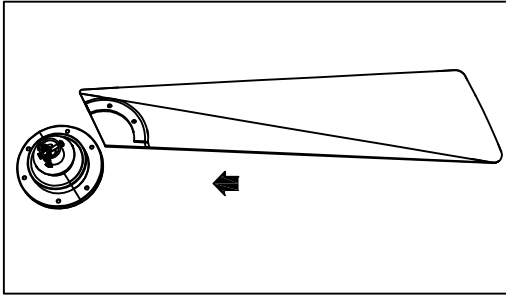

Figure 1
- 1) Fix the bracket and fan blade with screws in turn. **(Figure 1)**